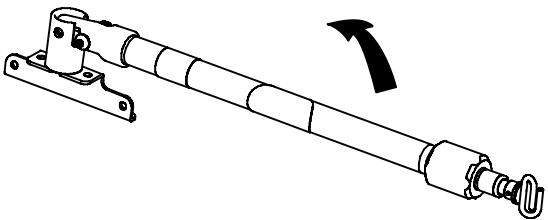

Figure 22 – Two-stage IV pole storage position
1. Lift and pivot the IV pole from the storage position. Push down until the IV pole locks into the receptacle (A).
2. To raise the height of the IV pole, turn the locking collar (B) counterclockwise and pull up on the telescoping section (C). Raise the IV pole to the desired height.
3. Turn the locking collar (B) clockwise to lock the telescoping section (C) in place.
4. Hang the IV bags on the IV hook (D).
5. Turn the locking collar (B) counterclockwise and slide the telescoping section (C) into the bottom tube.
6. Turn the locking collar (B) clockwise to tighten.
7. Lift up and pivot the IV pole down into the storage position (Figure 22).